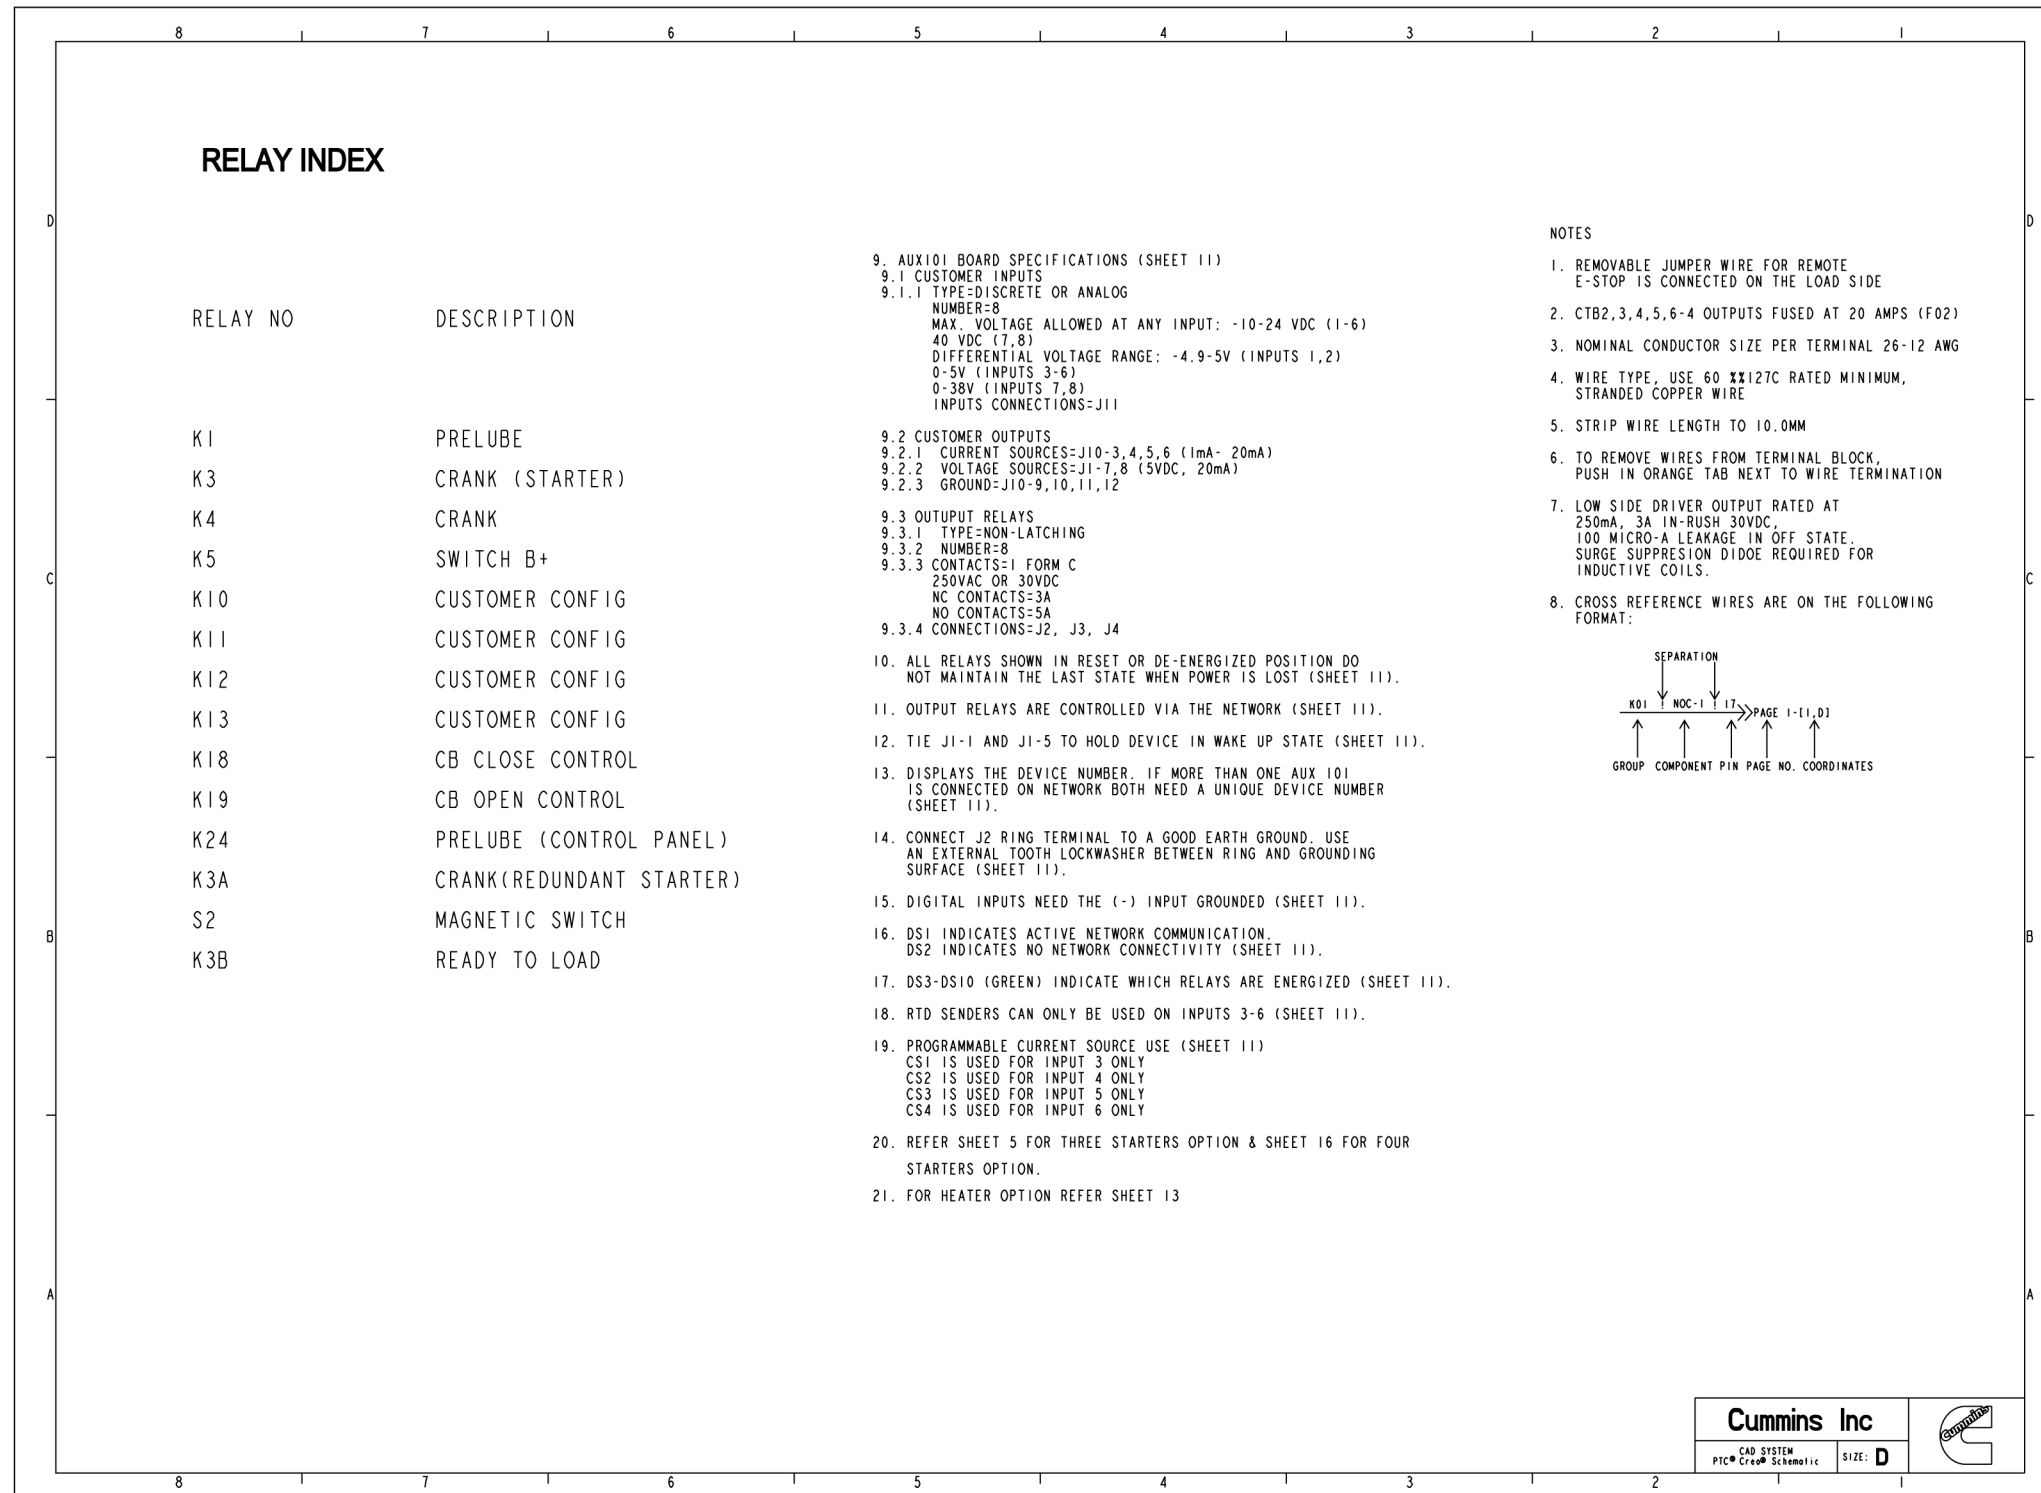

FIGURE 85. WIRING SCHEMATIC (SHEET 1)
- Figure 85. Wiring Schematic (Sheet 1) 389